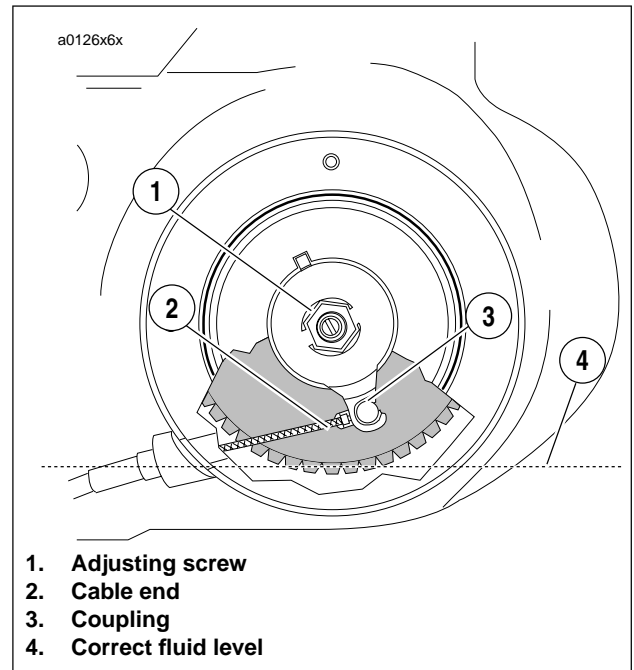

Figure 1-16. Fluid Level
5. See Figure 1-16. Inspect fluid level with motorcycle in upright position.
9. See Figure 1-16. Add SPORT-TRANS FLUID (Part No. 98854-96 quart size; Part No. 98855-96 gallon size) as required until fluid level is even with bottom of clutch diaphragm spring.